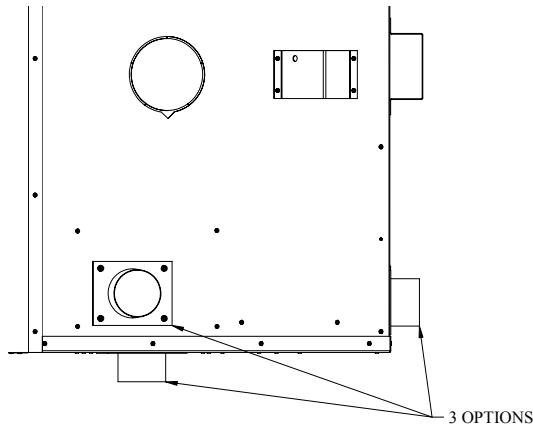
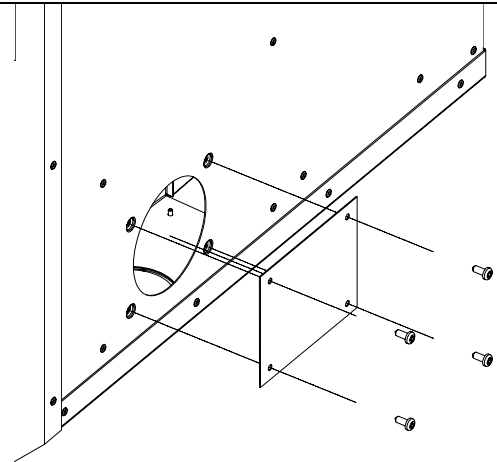

Figure 2
Figure 3
- 3) Select which air inlet you wish to use figure 2 (you may use more than one) and either remove the cover figure 3 (side inlet) or remove the knock-out (bottom and rear inlets).